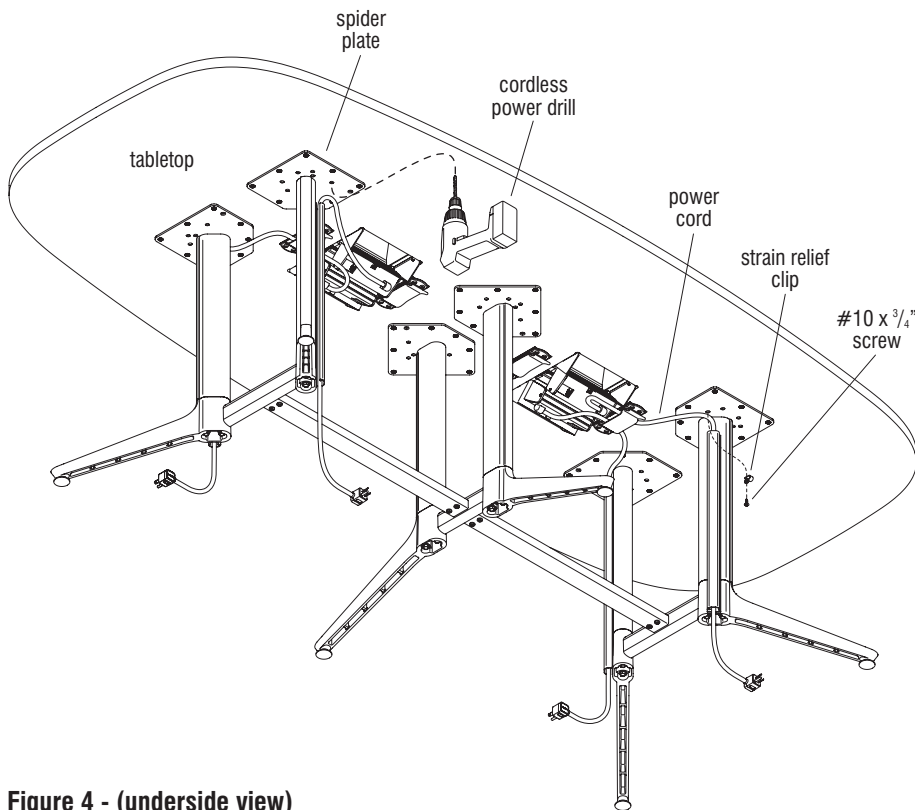

Figure 4 - (underside view)
1. Locate a strain relief clip and position it at the desired unused mounting hole on the spider plate (Figure 4).
2. Carefully bore a $\frac{1}{8}$ " diameter pilot hole at the center of the desired hole, underneath the tabletop using a cordless power drill. Take care to not drill too deep, piercing the tabletop (Figure 4).
3. Insert the cable into the openings of the strain relief clips. Secure the clips to the spider plate and tabletop using one #10 x $\frac{3}{4}$ " screw per clip (Figure 4 & Detail B).